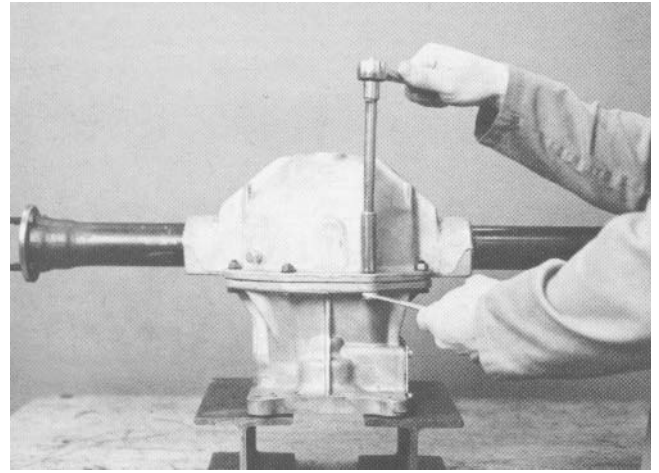

Figure 22
2. Remove the eight (8) housing cap screws, hex nuts and lock washers that secure axle housings. Separate the front and rear axle housings (Fig. 22). Clean all gasket material from the housing mating surfaces.